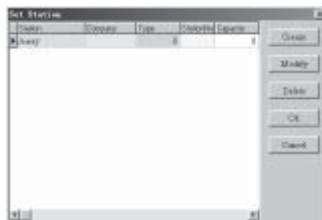
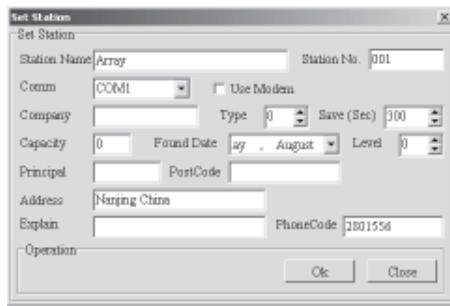
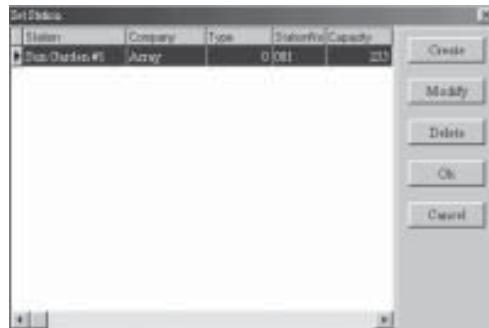

Fig. 4-2 Station Designing dialogue box
Fig. 4-3 Station Setup dialogue box
Fig. 4-4 Dialogue box for Definition and Modification of the Station name and Driving Method
2. A station design dialogue box will automatically appear in the system, as shown in Fig. 4-2.
3. If you design a Station for the first time, click **Create** in the right of Fig. 4-2 to enter station setup dialogue box, as shown in Fig.4-3. If your system already has a designed station, then click **Modify** to modify the existing station and enter station setup dialogue box. Or click **Delete** first to delete the existing station and then click **Create** to enter the Station Setup dialogue box.
4. In the Station Setup dialogue box, as shown in Fig. 4-3, the Station Name and Comm must be entered and cannot have duplicates, it must be unique. When editing is complete, click **OK**, this finishes the setup of the Station Name and the Communication method, then the dialog box, as shown in Fig. 4-4 will appear.